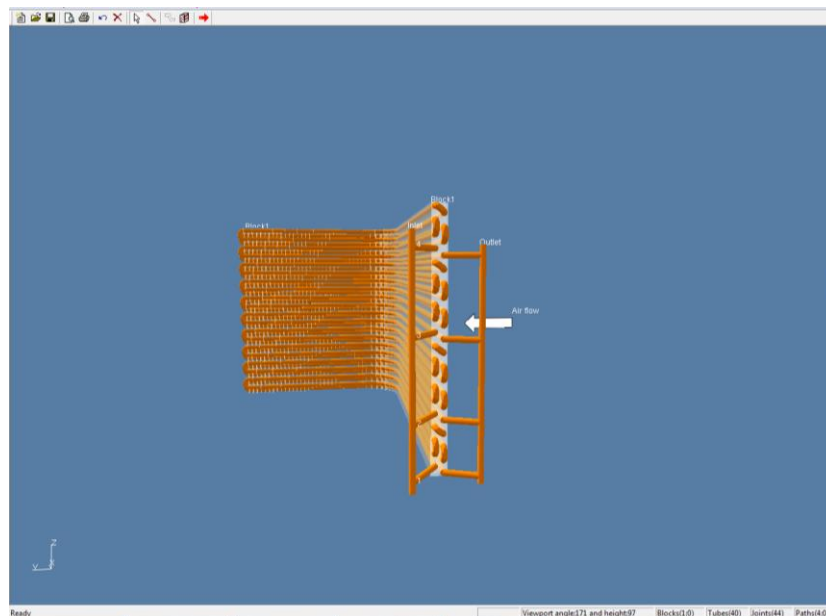

Fig. 10-21 Tubes circuitry
Step 5.1: Input dimensions of L typed fin-and-tube heat exchanger, just as Fig. 10-21.
Connect tubes as Fig 10-21 and the method of tubes connection is shown in chapter 6.